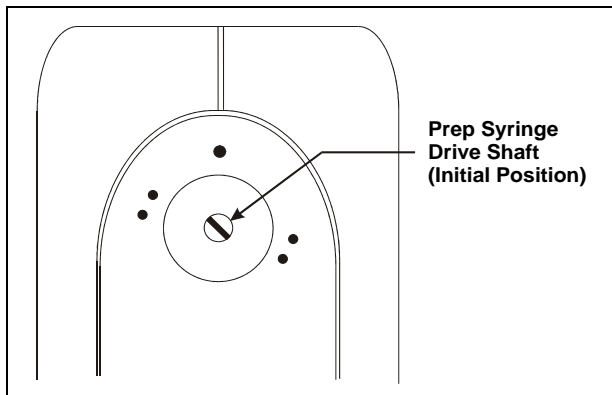

Figure 5-24. Prep Syringe Drive Shaft Initial Position
3. When the valve is removed, the syringe drive shaft is visible. When the syringe is in the initial position (the position selected when the valve was removed), the slot in the drive shaft should be in the 11 o'clock position (see Figure 5-24).